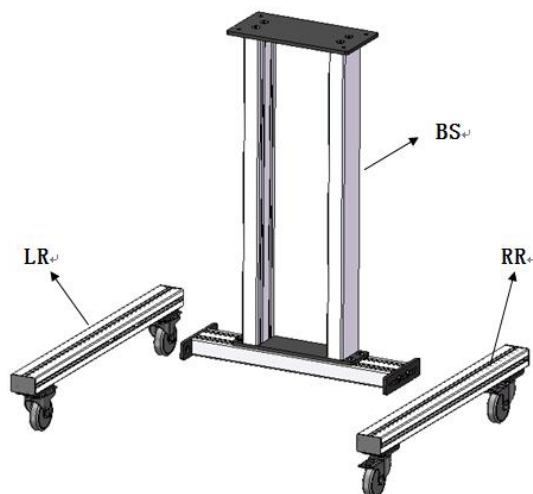

Fig 3.7.1
3.7 Base frame installation (fig3.7.1~3.7.4)
The base frame is included in CM100M main machine(fig 3.7.1),which is also a optional part and can be order separately,the base frame is consist with three installed spare parts: